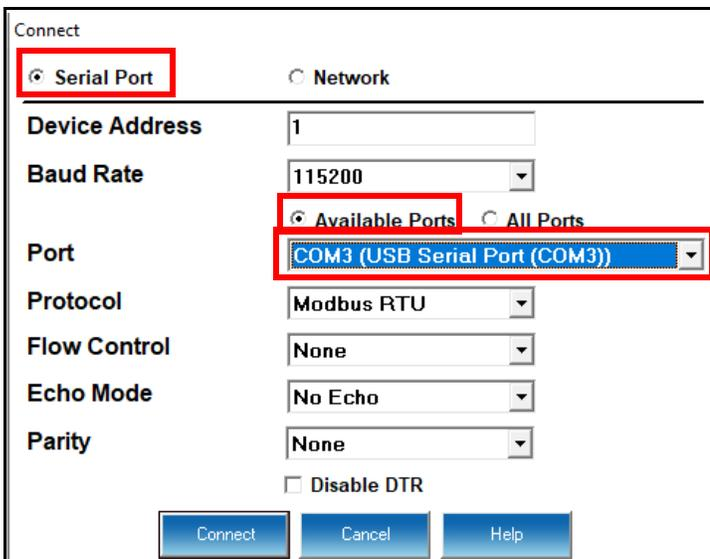

Figure 5.2: USB Type B Plug
- Is compatible with standard USB cables that terminate with a USB Type B plug (see Figure 5.2)